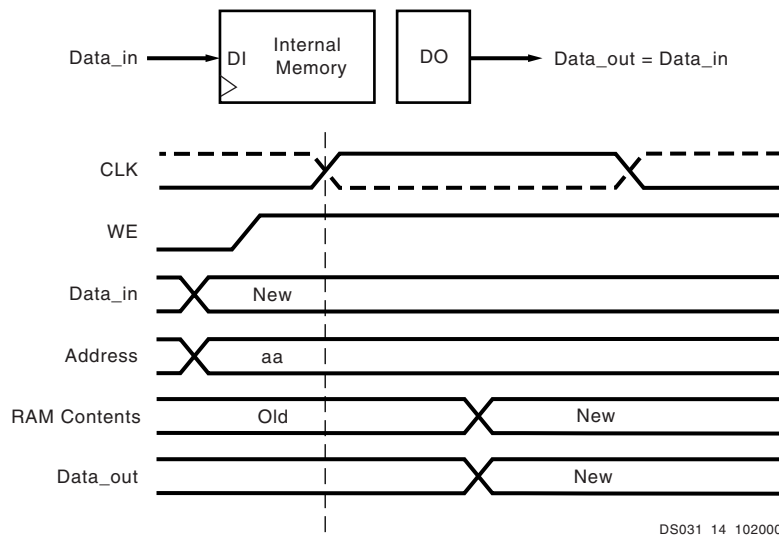

Figure 31: WRITE\_FIRST Mode
The "WRITE\_FIRST" option is a transparent mode. The same clock edge that writes the data input (DI) into the memory also transfers DI into the output registers DO as shown in Figure 31.